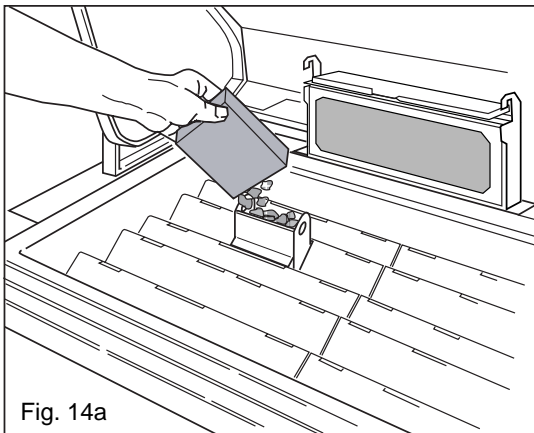

Fig. 14a
3. Remove the lid from the Smoker Box with a pair of tongs, or while wearing an insulated protective mitt and place some of the presoaked material in it (see Figs. 14a & 14b).
- The **Smoker Box**, standard with all Vermont Castings gas grills allows you enhance the flavors of foods by slow smoking with herbs, or a variety of wood chips or chunks (see Fig. 14a & b).